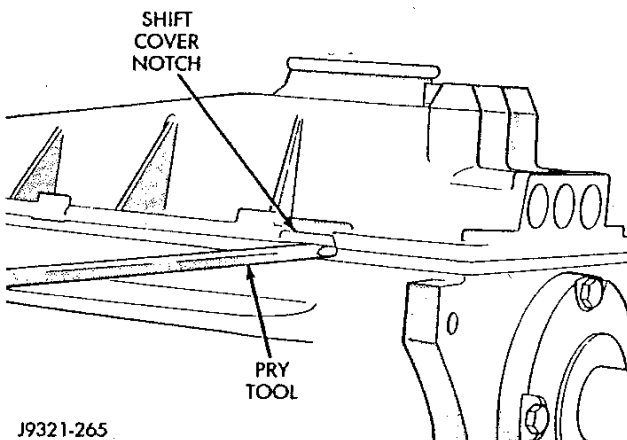

Fig. 1 Loosening Shift Cover
(1) Shift transmission into neutral.
(2) Remove shift cover bolts.
(3) Loosen shift cover with two pry tools. Insert tools in cover slots and pry cover off alignment dowels (Fig. 1). It is important to remove the cover evenly to avoid damage. Do not pry one side loose then the other. This practice could damage the forks and cover.